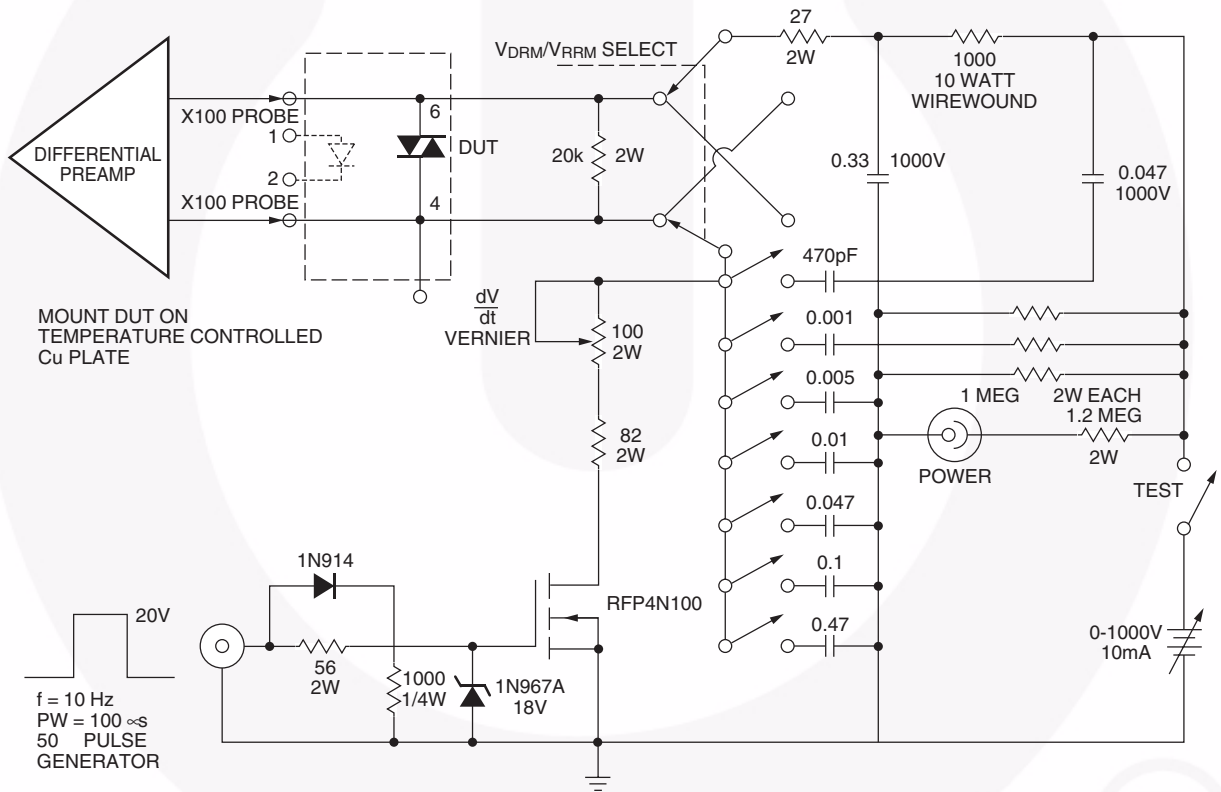

Figure 11. Circuit for Static $\frac{dv}{dt}$ Measurement of Power Thyristors
4. This is static dv/dt. See Figure 11 for test circuit. Commutating dv/dt is a function of the load-driving thyristor(s) only.